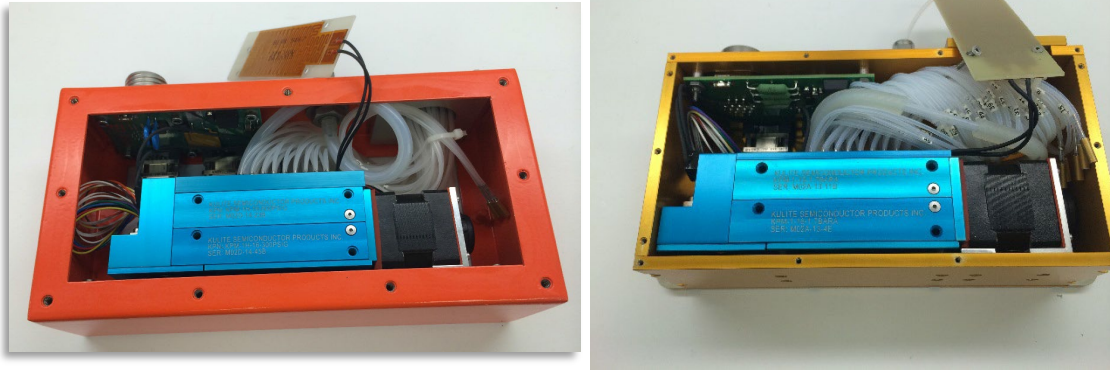

Figure 5: Scanners with heater off
**Step 3:** Remove screw (PN# 2) using appropriate Hex driver on each module to be serviced (see Figure 5). It may be easier to remove the modules if the top plate screws are loosened slightly.